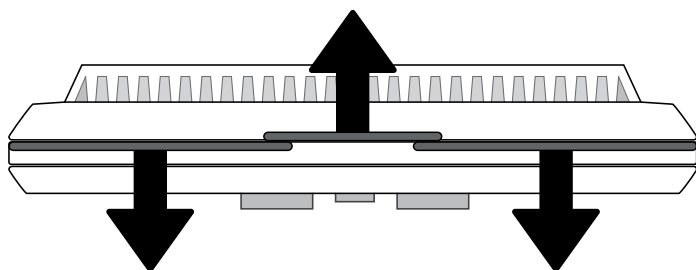

Figure 24.1
1. Separate the body of the thermostat from the mounting plate by gently pulling the two pieces apart (**Figure 24.1**)